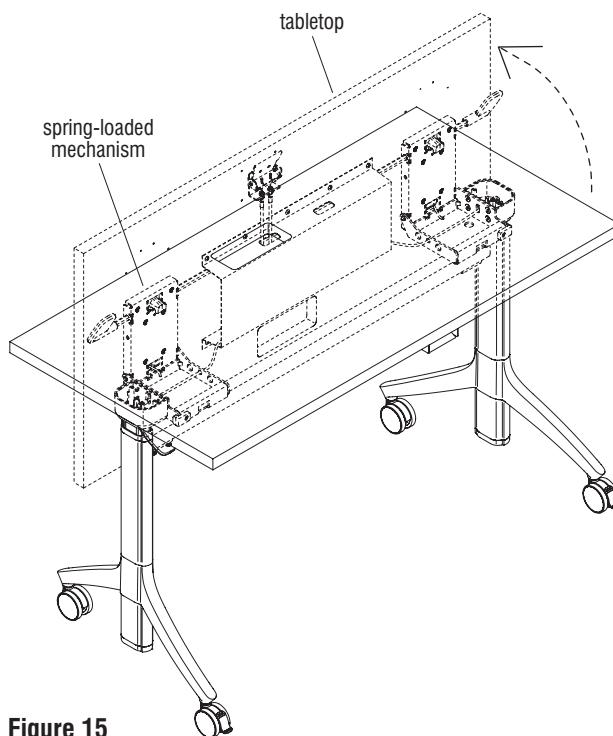

Figure 15
38. Begin "Test 1" adjustments by lifting a tabletop lock paddle and rotate the tabletop into the nesting position to gain access to the height actuator handle and cables (Figure 15). Inspect the hex ends of both cables in the actuator handle slots and conical indent and identify if one or more are not nested properly, and handle is not tight (Detail B2). Loosen the appropriate top M8 nut using the 7/16" wrench provided while pulling down on the black cable housing and twist the nut up as much as required. Holding the cable housing down, twist the bottom nut up finger tight, enough to assure that the hex cable end is seated correctly into the conical indent of the actuator handle, and the handle is tight down against the actuator bracket. Use the 7/16" wrench to turn the bottom M8 nut one-quarter to one-half of a turn more to tighten (Detail C2). Check to assure the cables are tight, or repeat the above process.